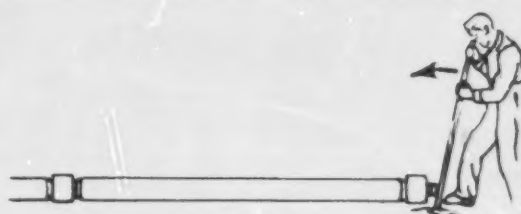

Figure 5-3. Bar-and-Wood Lever for Pipe Assembly
i) The bar-and-wood method of assembly is depicted in Figure 5-3. (See Figure 5-3.)